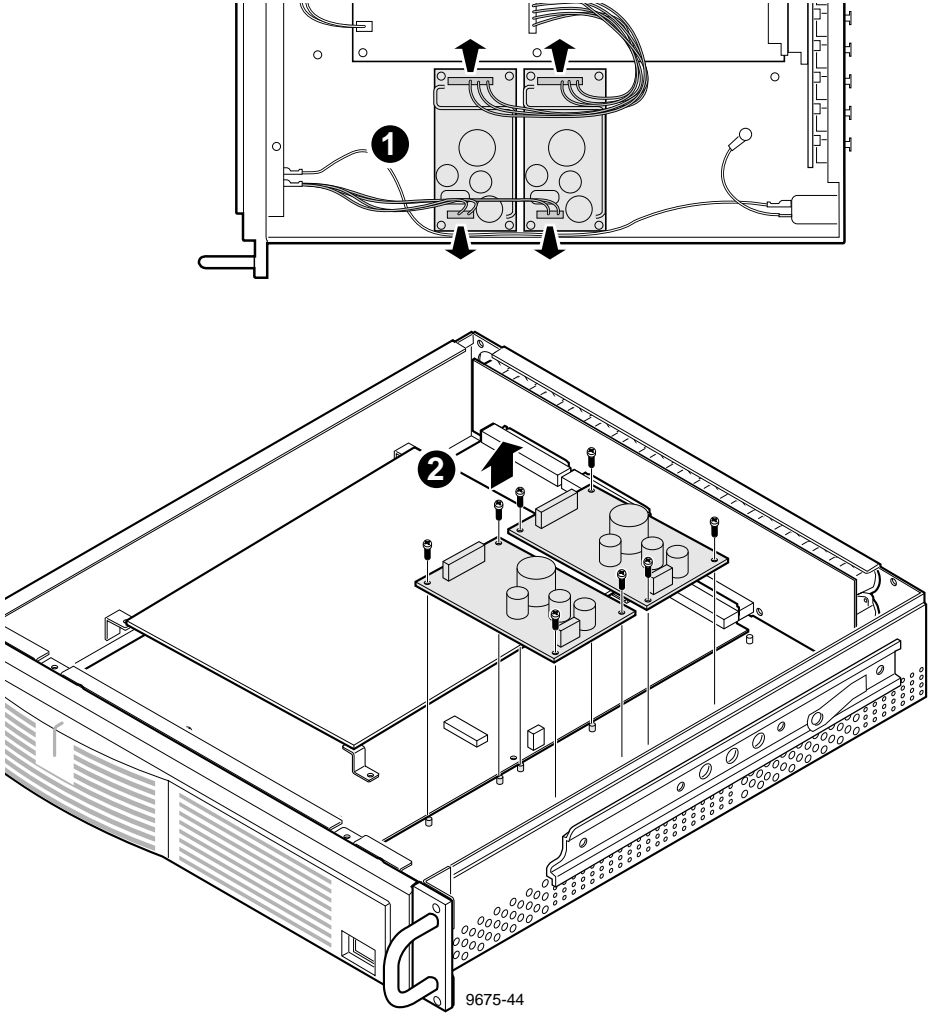

Figure 6-33. PAC208/216 Power Supply Removal
2. Disconnect the cables from power supply (1 in Figure 6-33).
3. Use the Torx tool with the T15 tip to remove the screws (four per module) which secure the power supply to the stand-offs and lift each module up and out of the chassis (2 in Figure 6-33).
1. Position each power supply module on the stand-offs on the bottom panel of the chassis and use the Torx tool with the T15 tip to secure the modules with the screws previously removed (Figure 6-33).